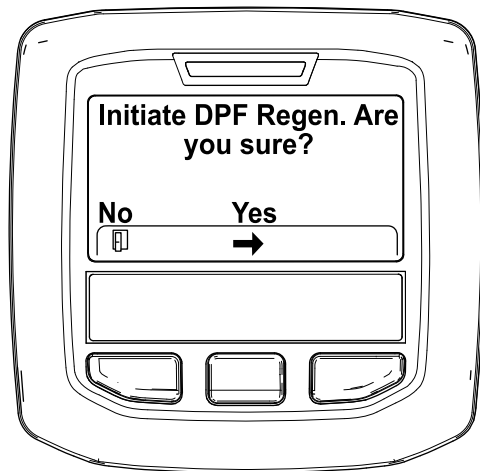

Figure 46
4. When the "Initiate DPF Regen. Are you sure?" message displays, press the center button (Figure 46).